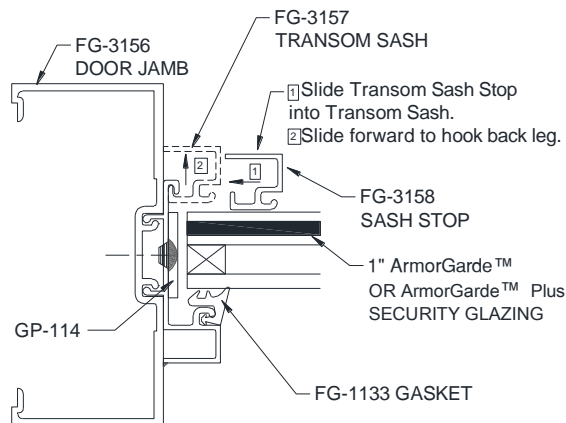

Figure 36: ArmorDefend™ Transom Sash Stop Installation
- 11.2.2.6 Install the Sash Stop; insert Sash Stop by the glass and slide forward to hook the leg in the Sash. The **FG-3158** Sash Stop installation is shown in Figure 36 for ArmorDefend™ framing with dry glazing.